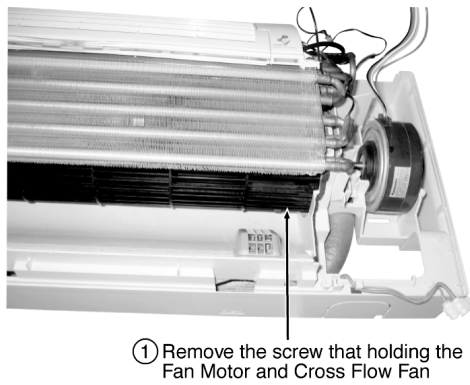

Fig. 8
8. Remove the Fan Motor by releasing the Fan Motor lead wire connectors and Fan Motor screws (Fig. 8).